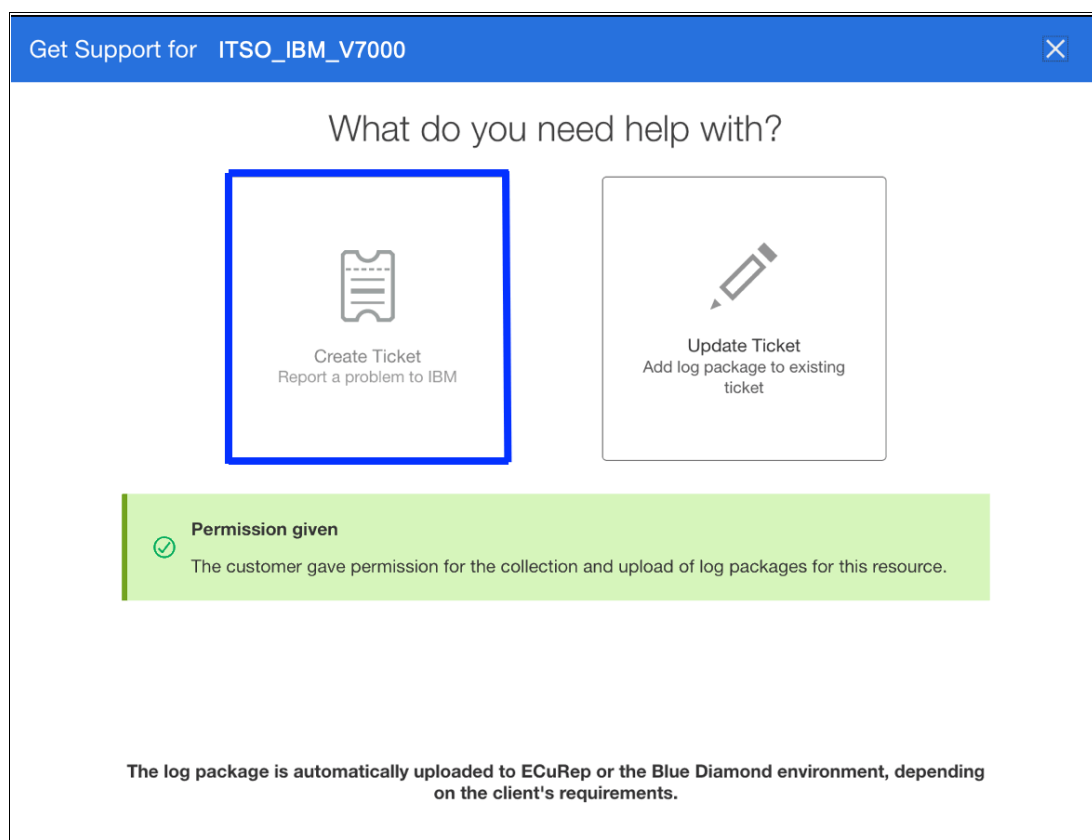

Figure 11-12 Create ticket
Figure 11-12 shows you the window where you can either create or update.
**Note:** The Permission given information box (see Figure 11-12) is an option that you must enable in the IBM Spectrum Virtualize GUI. For more information, see 11.4, “Remote Support Assistance” on page 521.